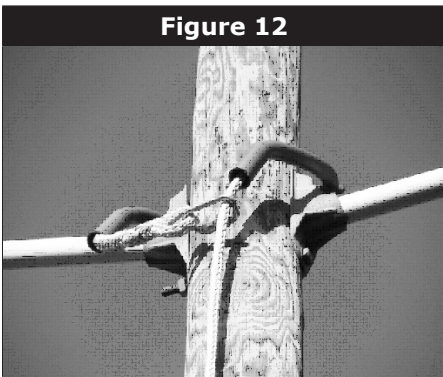
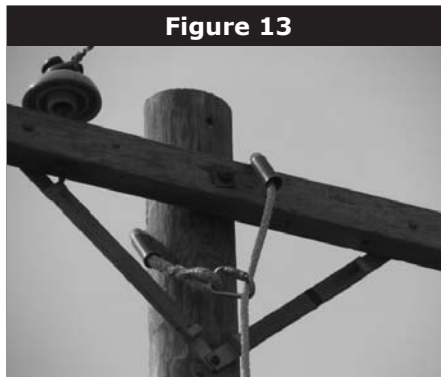

Figure 12
Figure 13
- Step 3.** Grasp the Plain End of the Lifeline and pull the Vertical Lifeline Rope through the Anchor Tube until the Eye Splice and Carabiner are snug against the Anchor Tube and Pole Top anchorage (Figure 12 & Figure 13).